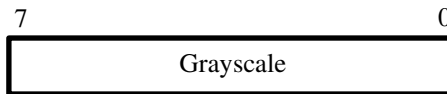

Figure 16. 8-bit Grayscale RGB Color Space.
- 1-Bit Black/White — This is a special case of the RGB color space where only two colors can be represented, black (0) and white (1). This mode is defined as 1 bit per symbol and one symbol per beat.
- 8-Bit Grayscale — This is a special case of the RGB color space where three colors have the same intensity and therefore produces shades of gray. Figure 16 shows to format of the 8-bit Grayscale data. This format is equivalent to YCrCb 4:0:0 color space. This mode is defined as 8 bits per symbol and one symbol per beat.